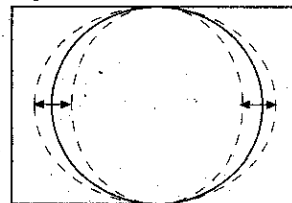

Fig. 2
- d) Adjust the horizontal amplitude to obtain 8% overscan (fig. 2).